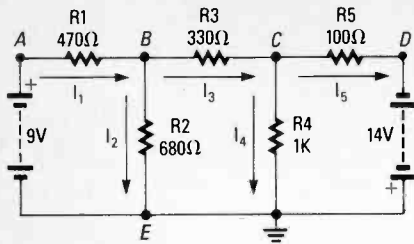

Fig. 4. Since the voltages at nodes A, D, and E are known, solving this circuit is easier than you might think.
was unknown. A circuit with two (or more) unknown node voltages would produce simultaneous equations. Such a circuit is shown in Fig. 4.
- Find the voltages at nodes B and C in the circuit of Fig. 4.
4. See Fig. 4 for the nodes and currents. The unknown node voltages are V_B and V_C . The current equations at those nodes are: